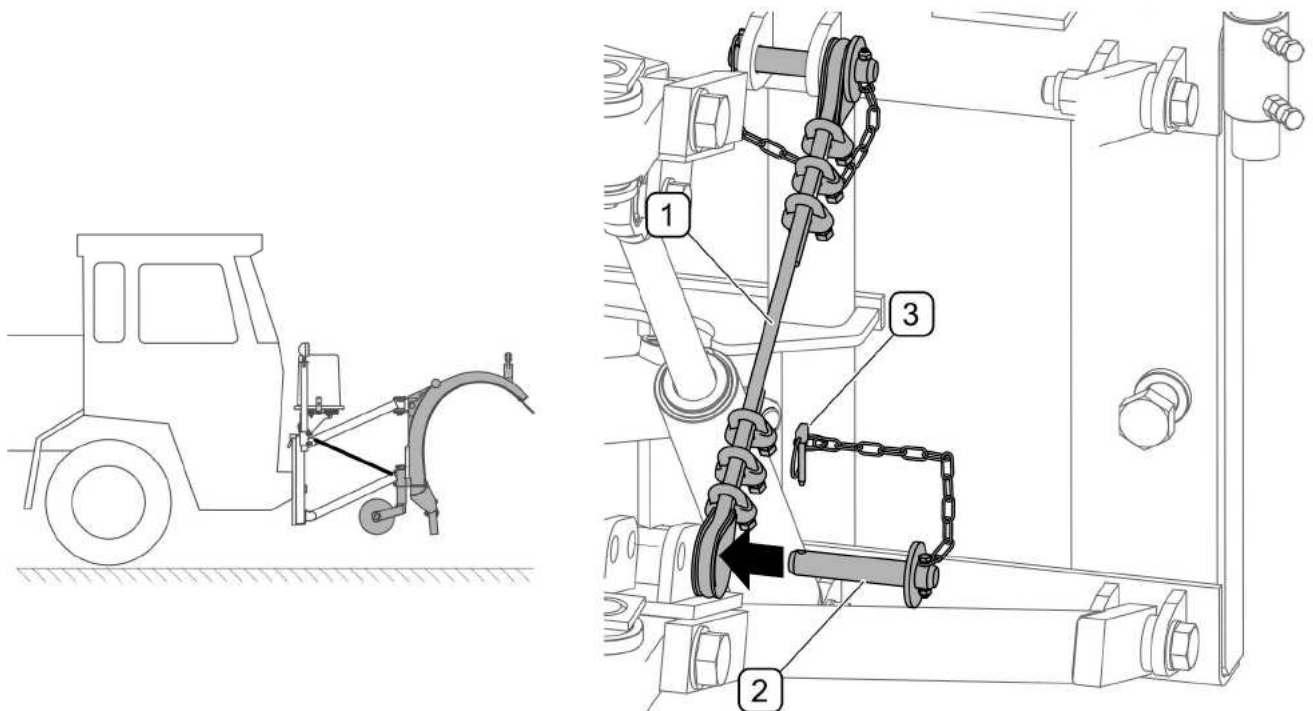

FIG. 4.16 Transport lock mounting
- When transporting a raised plough, protect the linkage against falling or accidental dropping with transport lock (FIG. 4.16).
In order to protect the linkage system in transport position (FIG. 4.16):